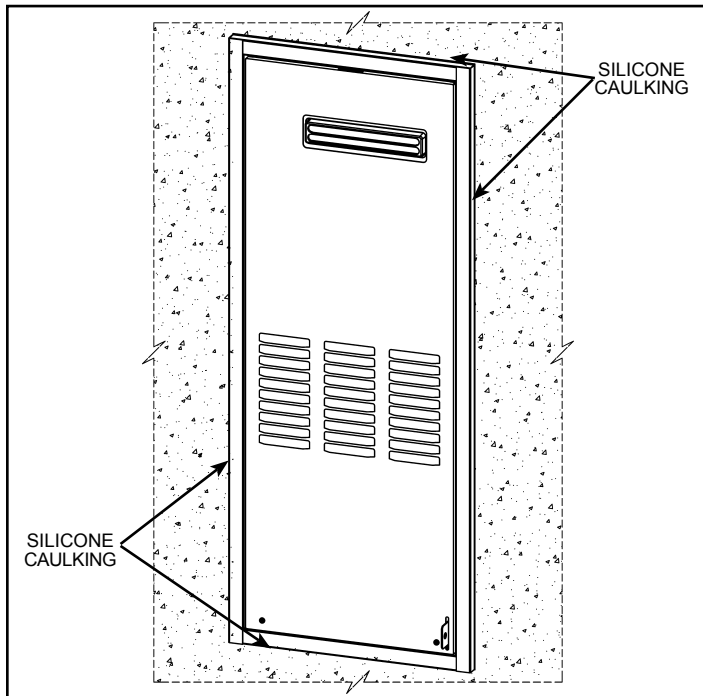
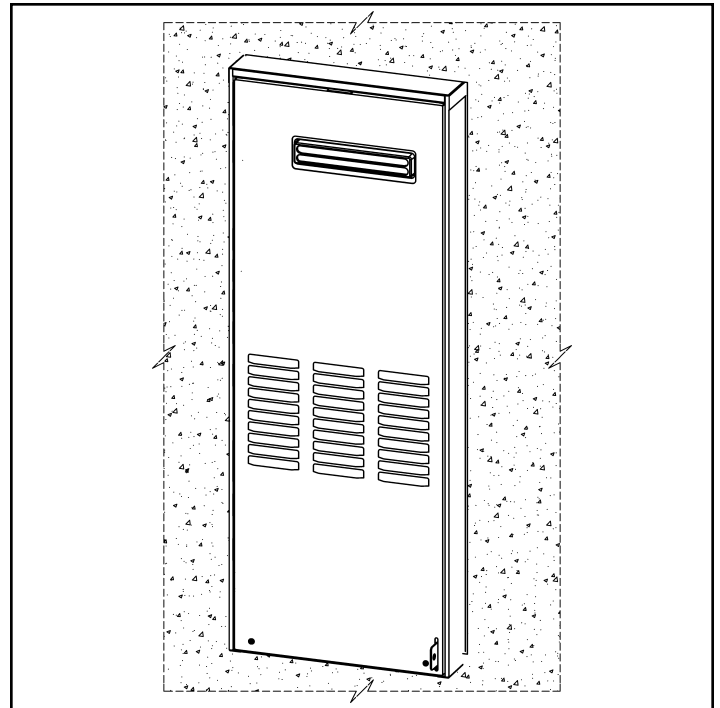

Figure 4.
Figure 5.
7. Use silicone to seal any openings between the recess box and wall face to prevent water from entering the wall cavity (see Figure 4 or Figure 5).